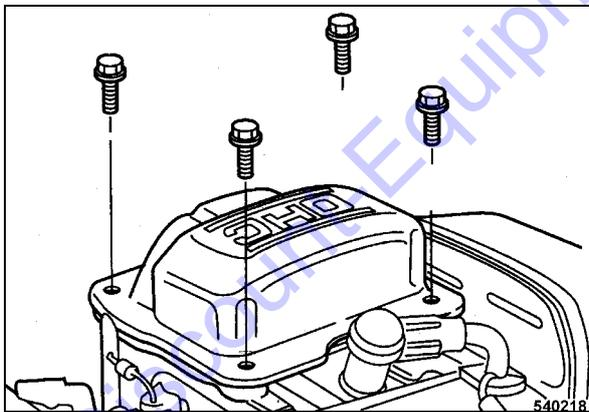

Fig. 47
- Unscrew the fastening screws for the cylinder head cover (Fig. 47).